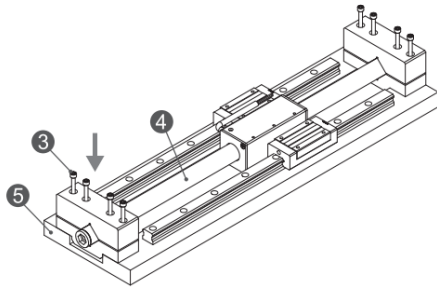

Figure5.2-10 Stator installation
- ▶ Use screws ③ to install the stator assembly ④ onto the fixation base ⑤, and measure the height difference and the left and right difference, and such difference shall not be greater than 0.2mm. (refer to Figure5.2-10)